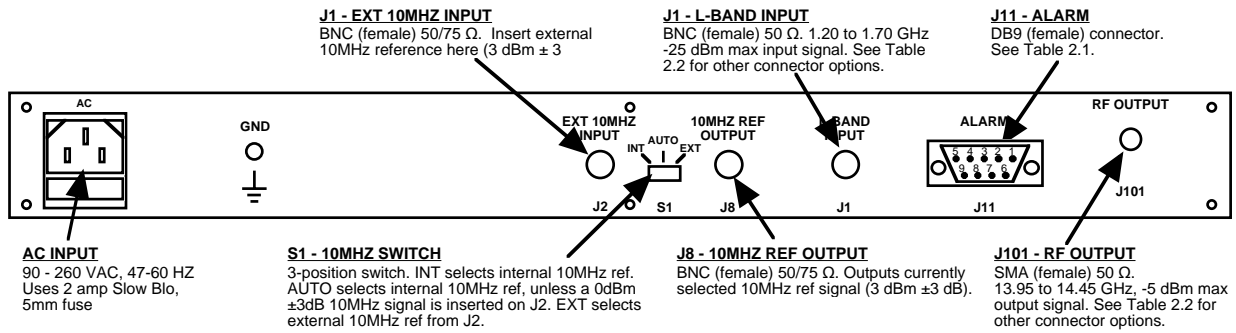

FIGURE 2.1 2115-139 Rear Panel I/O's
Figure 2.1 shows the input and output connectors on the rear panel.
1. Connect a -40 dBm to -25 dBm signal to L-BAND INPUT, J1 (Figure 2.1).
5. Select either INT (for internal 10MHz ref), AUTO (for internal 10MHz ref UNLESS a external 10MHz, 3 dBm signal is connected to J2), or EXT (for external 10MHz, 3 dBm ref that is inserted at J2) on rear panel switch S1 (Figure 2.1).
7. Check that a 10MHz, 3 dBm ± 3 dB signal is present at the 10MHZ REF OUTPUT (J8) (Figure 2.1).